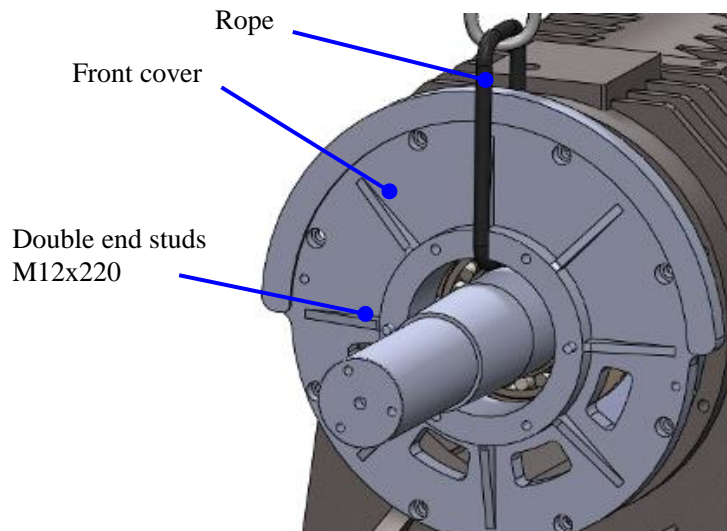

Figure 134: Hoist Front cover into position
5. Clean the Front cover and hoist it with the hoisting equipment, then fit the Front cover on the bearing through the double end studs (take aim at the mark). See Figure 134.